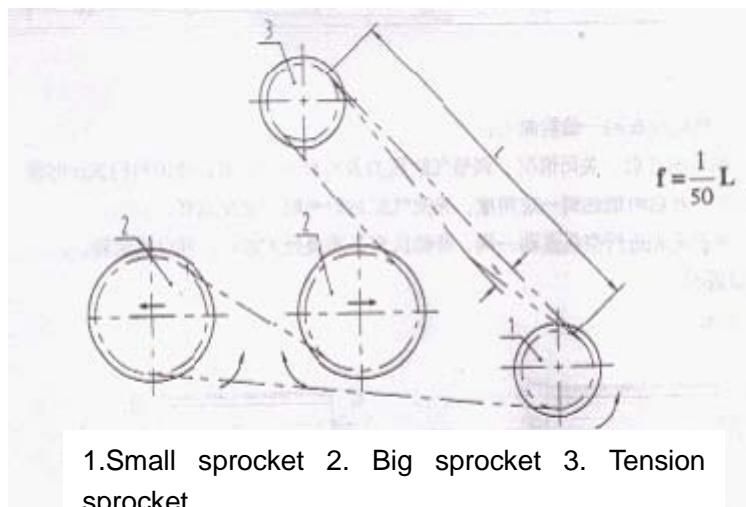

Fig. 4
be so mounted that the indicating arrows on the sprockets of two main shafts can be in the same horizontal line. The chain should be tensioned properly for smooth driving and rotating in a direction consistent with that shown in Fig.4, and at last the hood shield is to be installed.
7.5 After several hours' operation the chain should be tensioned as properly as the tensioning degree shown in Fig. 4 (reference size: $f=L/50$), and check other fasteners.